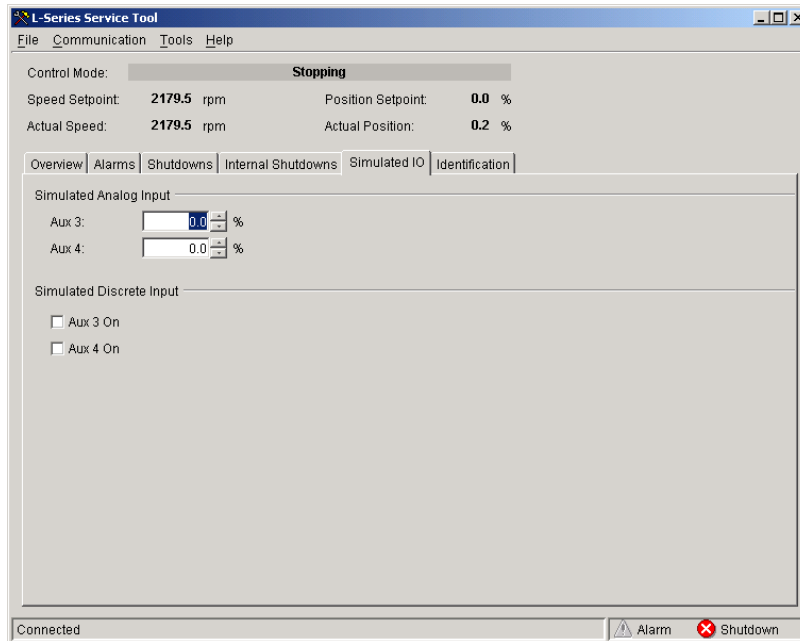

Figure 5-7. Service Tool—Simulated I/O Tab
- Simulated I/O (see Figure 5-7)